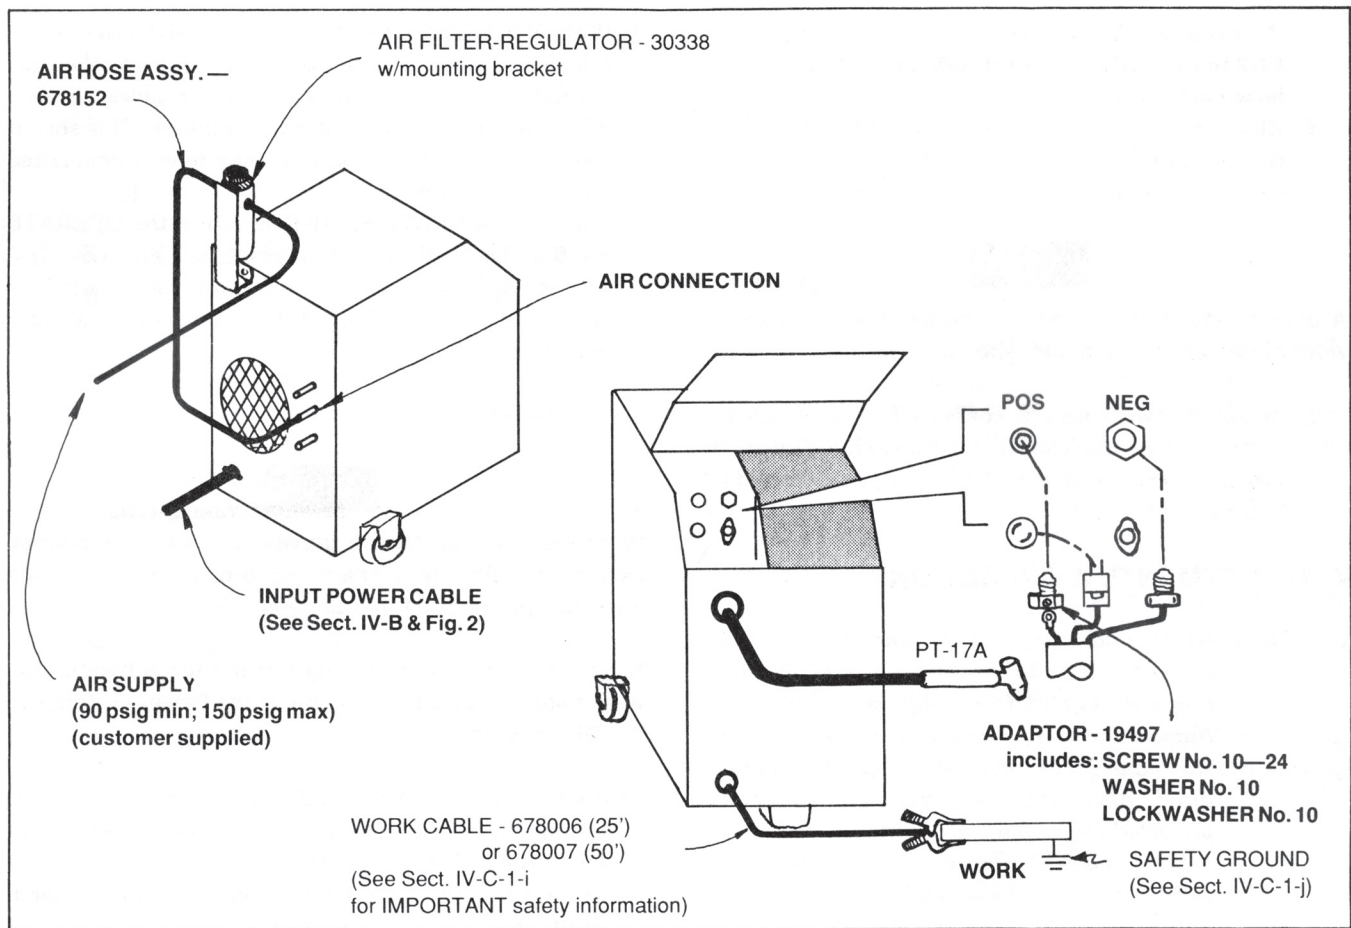

Fig. 3 - Interconnection Diagram - PCM-70/PT-17A
1. Using PT-17A Torch (Refer to Fig. 3)